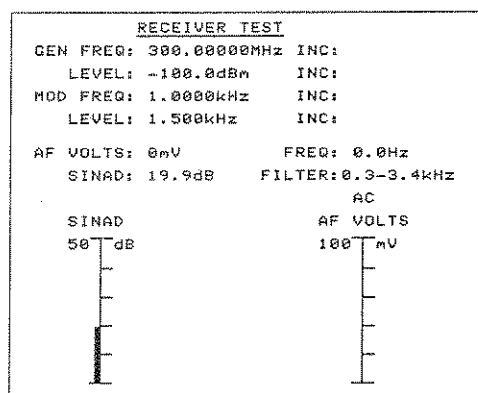

Fig. 3-6 Display following switch-on
- (1) Switch on both the 2955 and the Adapter. (There is no particular order of switching on). All four LEDs on the Adapter light and then three go out after a pause. The LED remains lit above the 2955 key. The RECEIVER TEST display appears on the screen as shown in Fig. 3-6. If one or more LEDs flash, this indicates a fault condition. (See 'Conditions indicated by LEDs' below).